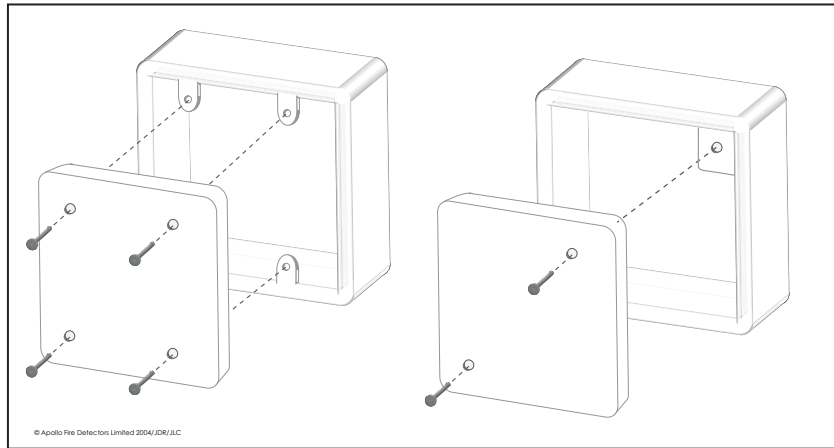

Fig. 1- Mounting the XP95A Switch Monitor Input/Output Module
2. Drill holes in the fascia plate corresponding to the holes on the mounting box selected (Fig. 1).